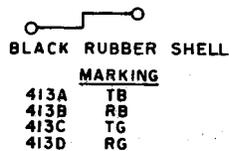

Fig. 9—413-Type Plug
2.09 413A, B, C, and D: The 413-type (Fig. 9) are test plugs designed to plug into a receptacle on 1A1-type protector units. The 413-type plugs form part of the 4W12A cord.